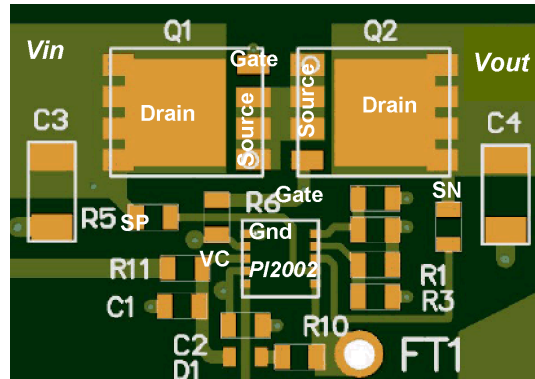

Figure 23: PI2002 and MOSFET layout recommendation
Use the following general guidelines when designing printed circuit boards. An example of the typical land pattern for a TDFN PI2002 and SO-8/PowerPak MOSFET is shown in Figure 23:
- Connect the power source very close to the Q1 drain connection to reduce the effects of stray parasitics. If a short trace is not possible, connect C3 (typically $1\mu\text{F}$) as shown in Figure 23.